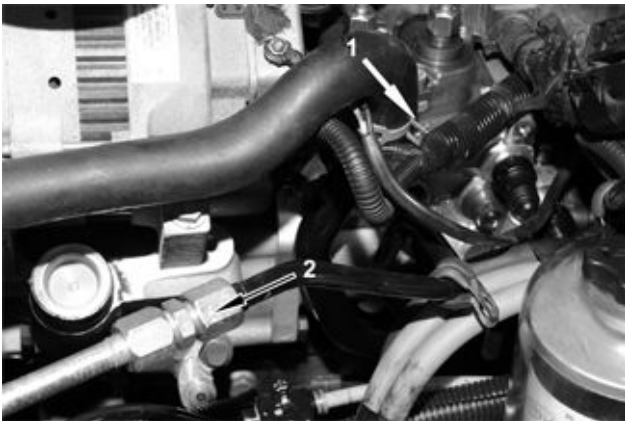

Figure 7. Power Steering Supply and Return Lines
18. Disconnect rubber power steering hose at return tube. Disconnect HP power steering line and position it out of the way (Figure 7).